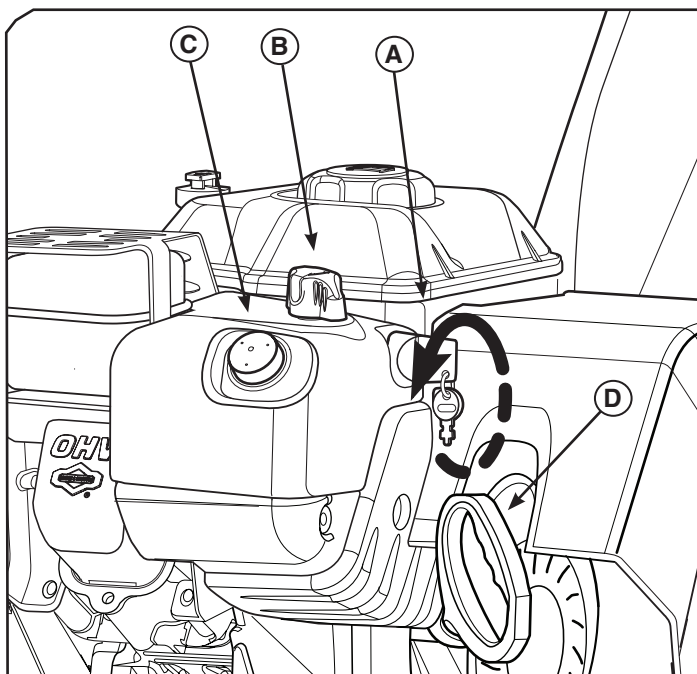

Figure 2
3. Insert the ON/OFF key (A, Figure 2) and turn to the ON position or insert the Push/Pull key, if equipped.
9. As the engine warms up, move the choke control (B, Figure 2) to the open position.
1. Turn the ON/OFF key (A, Figure 2) to the OFF position or remove the Push/Pull key, if equipped.